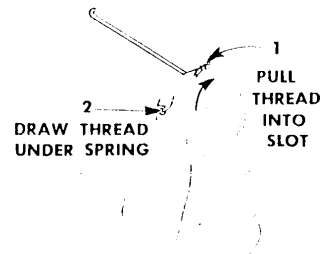

Fig. 18. Pulling the Thread into the Slot
- Pull thread into slot 1 and under tension spring 2, Fig. 18.